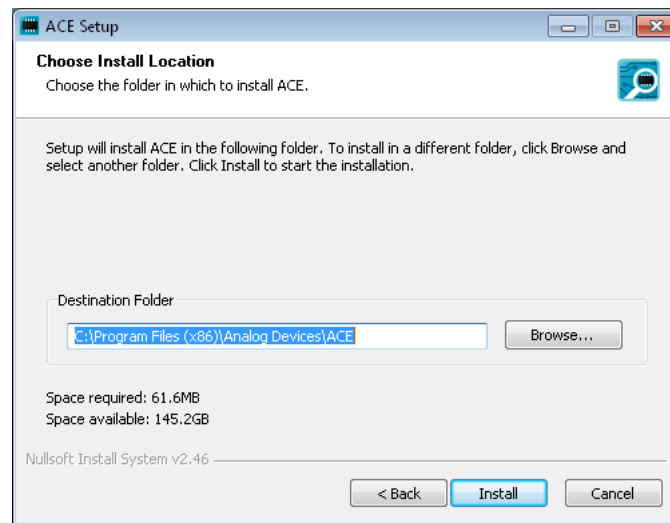

Figure 2-4: ACE Setup Wizard Step 4
Step 4: By default ACE will install to the location path C:\Program Files(x86)\Analog Devices\ACE. To change the install location, modify the path of the destination folder in the wizard, please note that this will still remove ACE from the Program Files(x86) location. . Click “Install” to start the installation, Figure 2-4.